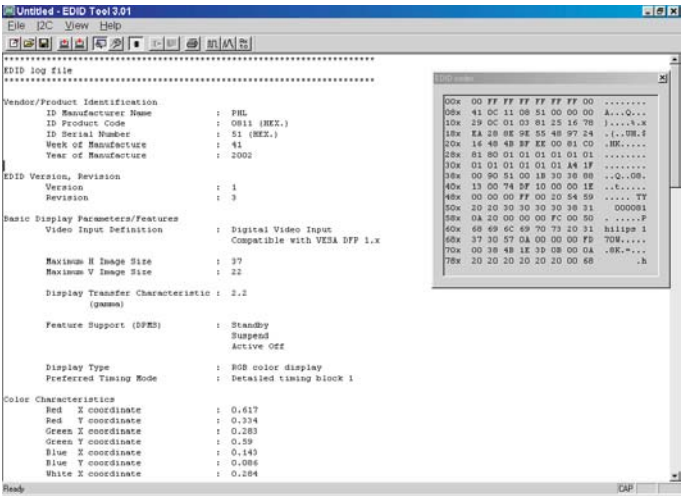

Fig. 37
- Click icon (Read EDID function) to read DDC EDID data from monitor. The EDID codes will display on screen as shown in Fig. 37.